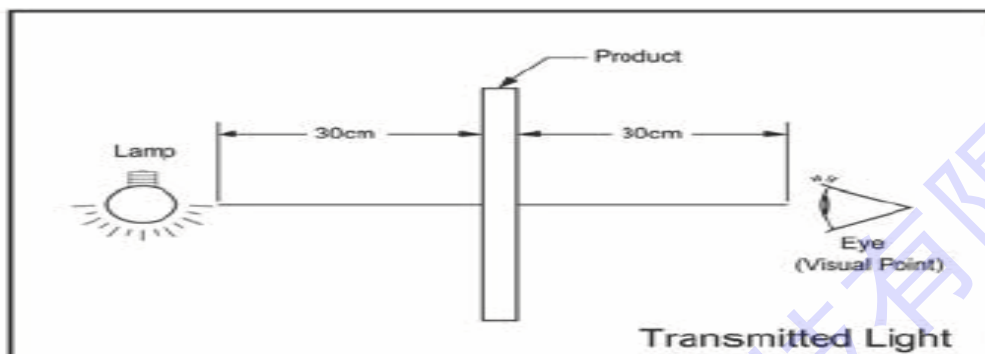

figure 13.1
3. Lighting illumination: 17W fluorescent luminant lamp is used for appearance inspection. Detail of settings is shown in **figure 13.1 & 13.2** .